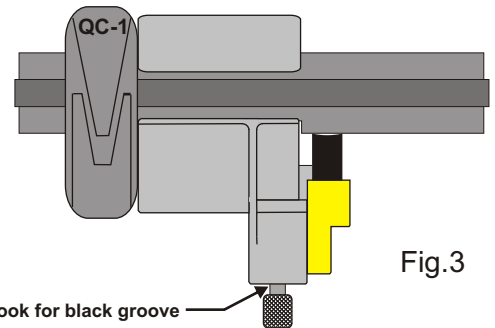

Fig.3
3. To set the blade depth for the initial channel cut, turn the blade knob CCW until the black groove on the knob can be seen where it meets the blade cover. This pre-sets the blade depth for the first cut. (Fig.3)